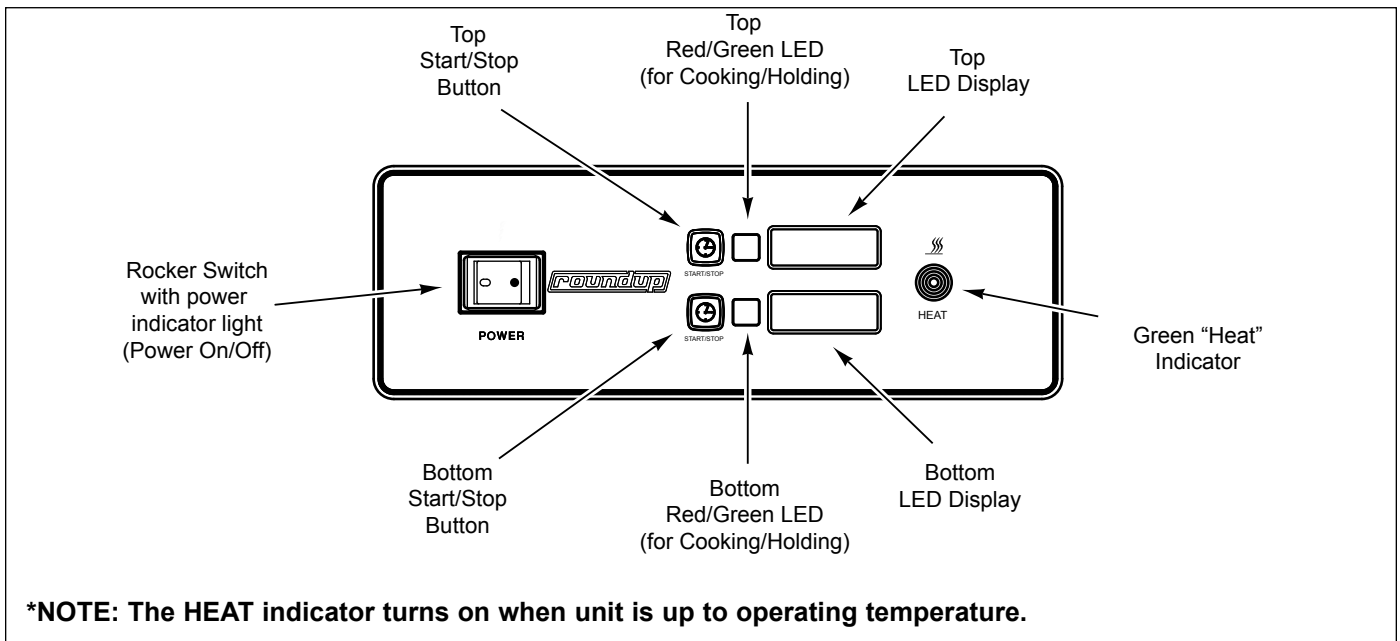

Figure 3. Controls
3. The green **Heat Indicator** (Figure 3) turns on when the unit reaches operating temperature.
Both timers can be individually programmed to a desired time (Figure 3). Follow this procedure to program the timers.